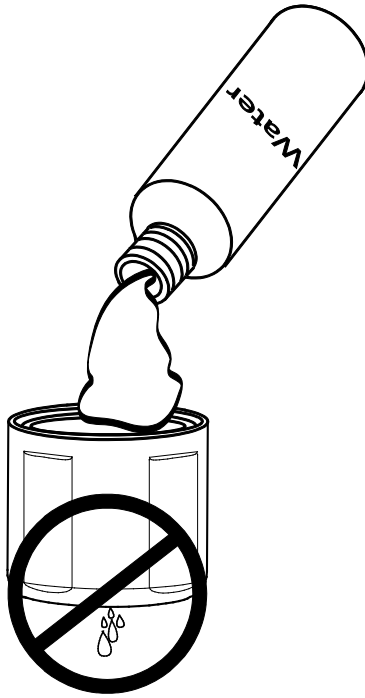

FIGURE 8-6. Check for leakage
8. Pour some clean water into the lower body and look for leakage around the membrane (FIGURE 8-6); replace membrane if there is leakage. If there is no leakage, dispose of the water.